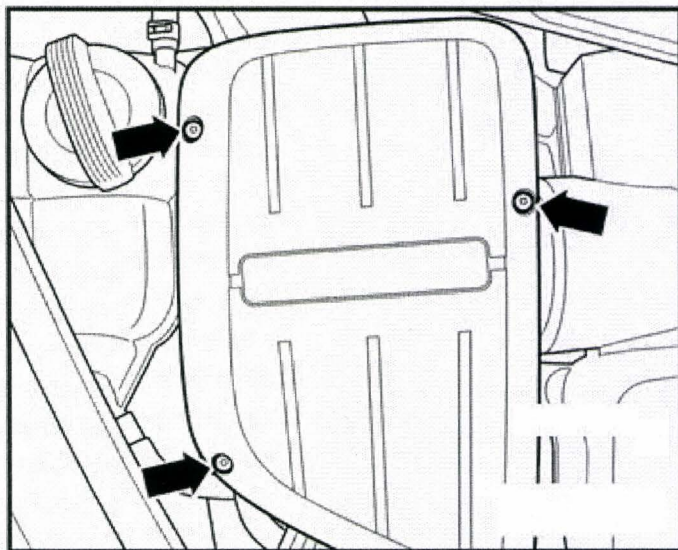

Figure 1
2. Remove the three screws -arrows- (1.5 Nm) and lift off the air filter cover (Figure 1)